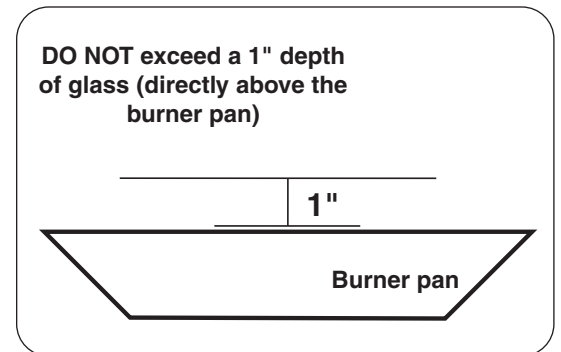

Fig. 13-2 Proper media placement
- **DO NOT exceed a 1" depth of glass (directly above the burner pan) as shown in Fig. 13-2. Any additional glass/gems above the burner may cause unsafe operation.**